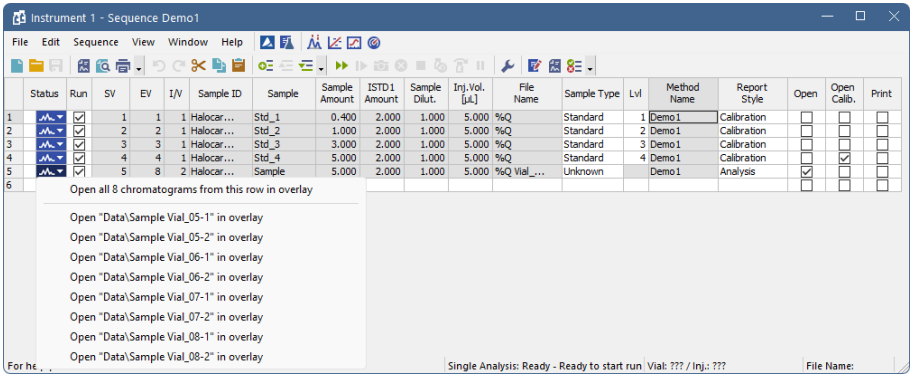

Fig. 16: Opening chromatograms in overlay
- Already measured rows will change their *Status* from green field () to icon with small chromatogram (). During the measurement, the icon is orange. A small triangle will appear in the icon  if a chromatograph is produced by the particular measurement in the row. Left mouse click on the triangle will reveal the option to open the chromatogram(s). You can click on the name of the chromatogram to open it or select option to open all chromatograms in overlay as seen in **Fig. 16** on pg. 27.